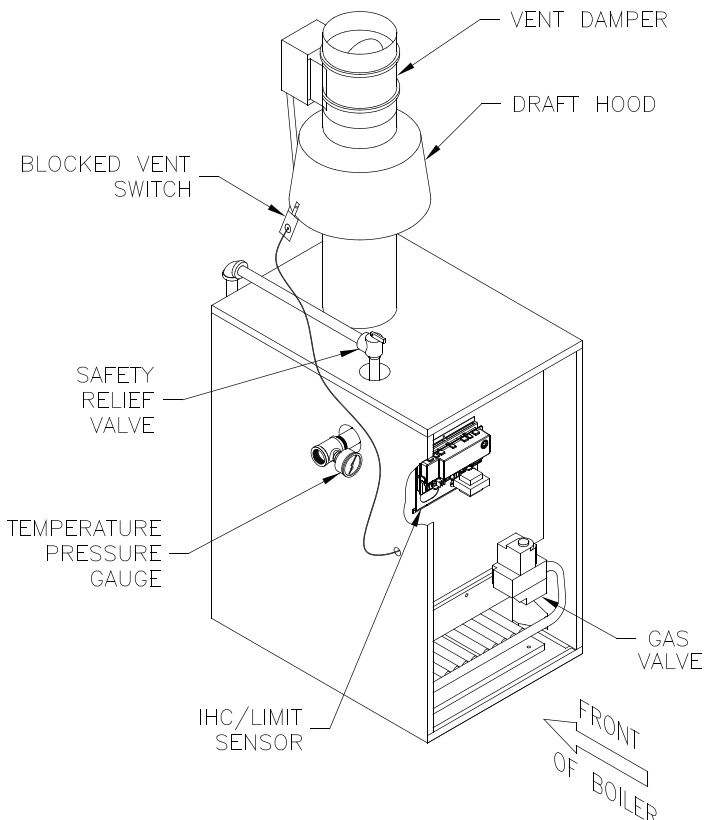

Figure 1: Control Locations
1. **Limit** See Figure 1. A device which automatically interrupts boiler operation when the water temperature exceeds the set point. Maximum allowable boiler water temperature is 220°F. Switch differential is 15°F.
2. **Blocked Vent Switch** See Figure 1. A device which automatically interrupts boiler operation when excessive vent system blockage occurs. If the
4. **Electronic Ignition System** - see Figure 1. The Electronic Ignition (EI) System consists of: